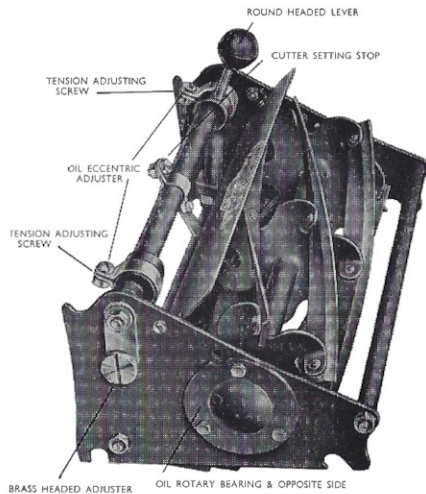

FIG. 4
- (1) **Front rollers.** Apply oil at the space provided between each roller. To assist the feed of oil, tip the machine on each side. (Medium grade oil every week.)
- (2) **Rotary cutter bearings.** First remove detachable unit. Now place the unit carefully on its side when a rubber plug will be seen in the bearing cover. This should be removed and oil applied to the bearing, afterwards replace. Then turn the opposite end upwards when an oil hole will be seen through one of the large three coupling holes. (Fig. 4). Oil to the bearing should be applied at this point. (Medium grade oil every two weeks.)
- (1) First unscrew the locking nut of the setting stop screw a couple of turns to release the stop and make it free on the tube. (Ref. fig. 4.)
- (2) Now set the bottom shear blade parallel to the rotary cutter. (Please refer to the instructions, reference Parallelism of Cutters.)
- (3) Adjust the bottom shear blade to a **LIGHT AUDIBLE CONTACT** with the rotary cutter by moving the round headed lever in the direction of the rear roller (see fig. 4).
- (4) With the cutters adjusted to a **LIGHT AUDIBLE CONTACT**, the cutter setting stop should be rotated and positioned so that the bottom end of the stop contacts up against the back of the grass shield. The lock nut and screw should then be tightened securely in position. A light audible contact between the rotary cutter and the shear blade will give the best cutting results. Too harsh a contact will only cause unnecessary wear.
First remove the cutter unit from the chassis, on the right hand side of the unit will be seen a brass headed adjuster which is connected to the top tie bar by a flat link. (See fig. 4.)
The tension of the red headed lever adjuster for bringing the blades into contact can be adjusted by the screws which secure the two knife frame strips in position. (See fig. 4.)